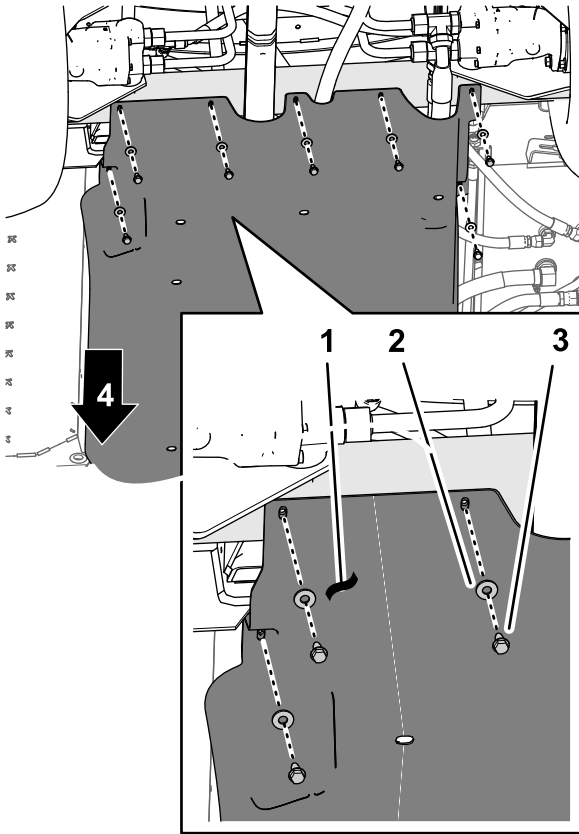

Figure 180
- Align the holes in the rear part of the undercarriage shroud with the holes in the chassis (Figure 180).
- Assemble the rear part of the undercarriage shroud to the chassis with the 7 flange-head bolts (5/16 x 7/8 inch) and 7 washers (5/16 inch) that you removed in step 1 of 12 Removing the Optional Undercarriage Shroud Kit (page 24) (Figure 180).